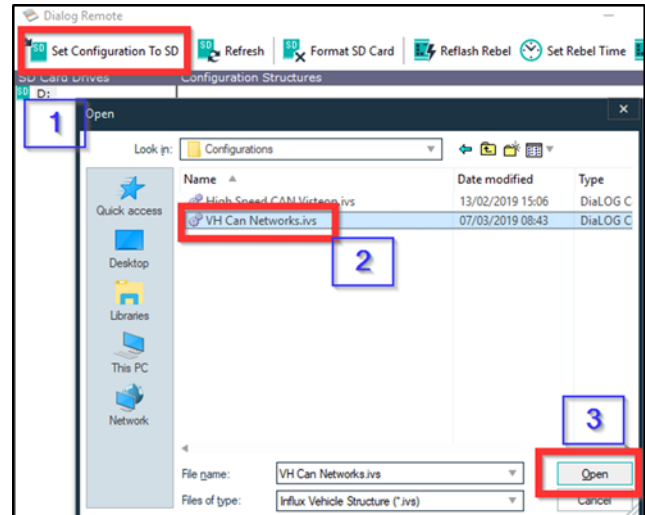

Figure 3
4. Open "Dialog Remote" (refer to Figure 3).